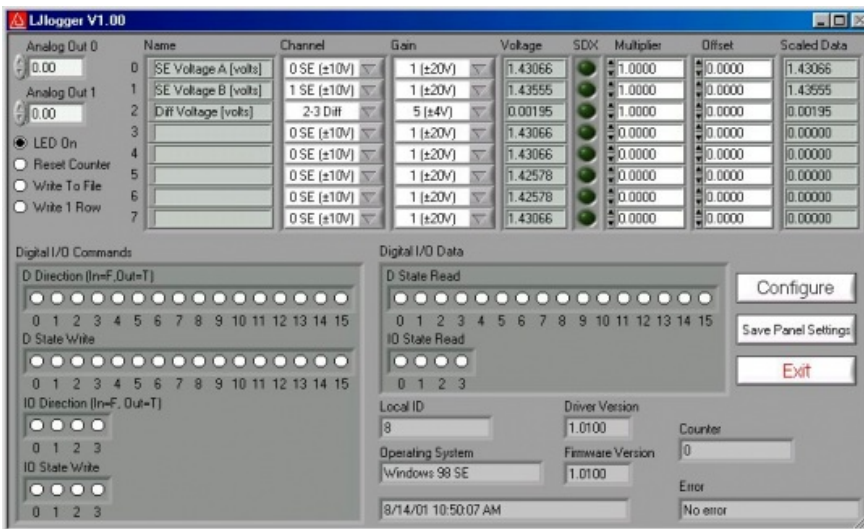

Figure 3.4-1. LJlogger
The main window for LJlogger is shown in Figure 3.4-1. The white colored items and the “SDX” buttons are controls to be edited/selected by the user. The grey colored items are indicators which display various information about the LabJack. Clicking the button labeled “Save Panel Settings” will save the current values of the controls as the default values.
Clicking the “Configure” button shown in Figure 3.4-1 brings up the window shown in Figure 3.4-2:
- **Trigger #0:** If the scaled data from analog input row 7 (Figure 3.4-1) is greater than 5, then set AO1 to 5 volts. Once triggered, there is a 10 second delay before it can be triggered again.